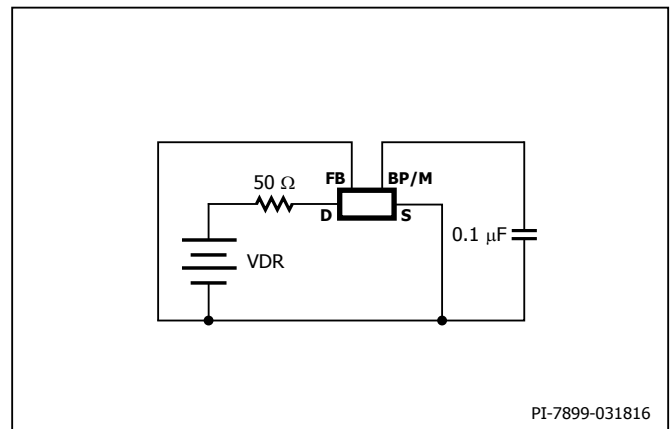

Figure 14. LinkSwitch-XT2 Minimum On-Time Test Circuit.
- Measured using circuit in Figure 14 with 50 Ω drain pull-up. The width of the drain pulse is measured as the time from $V_{FALL} = 42\text{ V}$ to $V_{RISE} = 40\text{ V}$ ($V_{DR} = 50\text{ V}$).